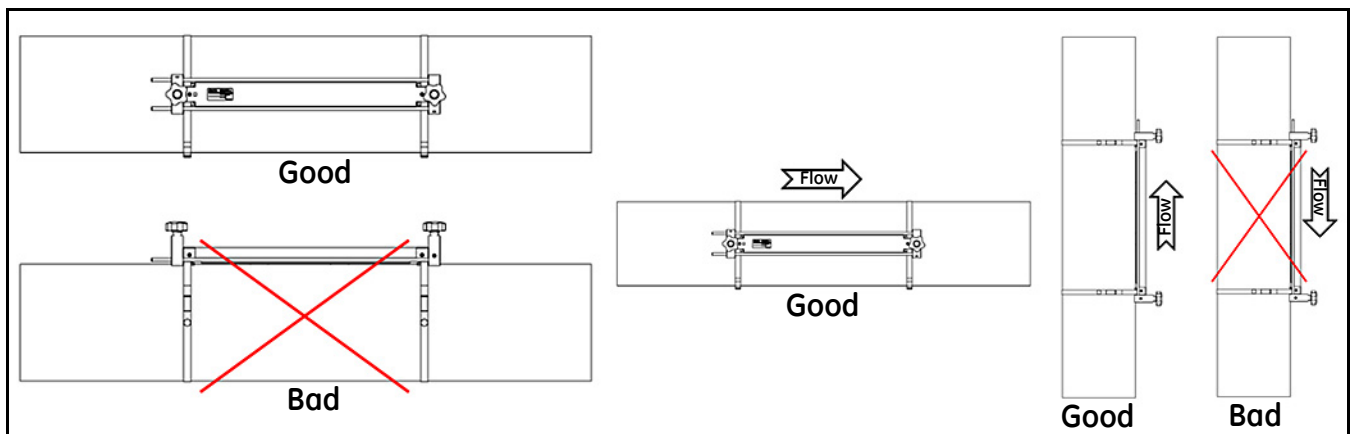

Figure 8: Good and Bad Transducer Locations
- Locate the transducers on a common axial plane along the pipe (see *Figure 8* below). The transducers should be mounted on the side of the pipe, rather than the top or bottom, because the top of the pipe tends to accumulate gases and the bottom tends to accumulate sediment. Either condition may cause excessive attenuation of the ultrasonic signal. There is no similar restriction with vertical pipes, as long as the flow direction is upward to prevent free falling of the fluid in a partially filled pipe.